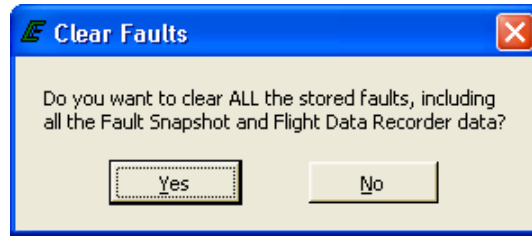

Figure 3-92. Clear Faults Prompt
Fault information may be manually erased using the "Clear" button functions. Once a "Clear" function has been selected, the dialog prompt shown in Figure 3-92. will be displayed. Choosing YES deletes all fault information from the ECM.
* Snapshot and flight data recorder data for historic faults is erased after the prompt shown in Figure 3-92. is satisfied